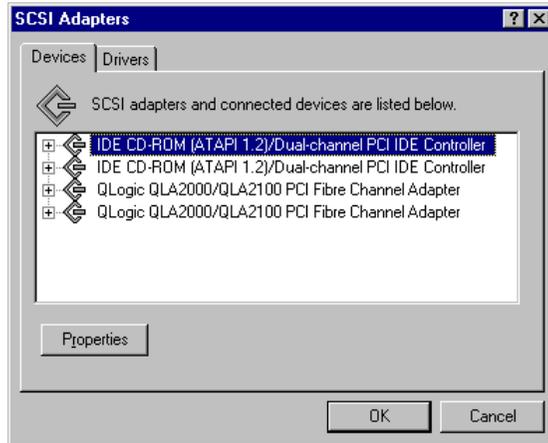

Figure 45. Installing Qlogic FC adapter drivers
2. Open the Control Panel, SCSI devices, and check if the operating system sees your Fibre Channel HBAs, as shown in Figure 45.